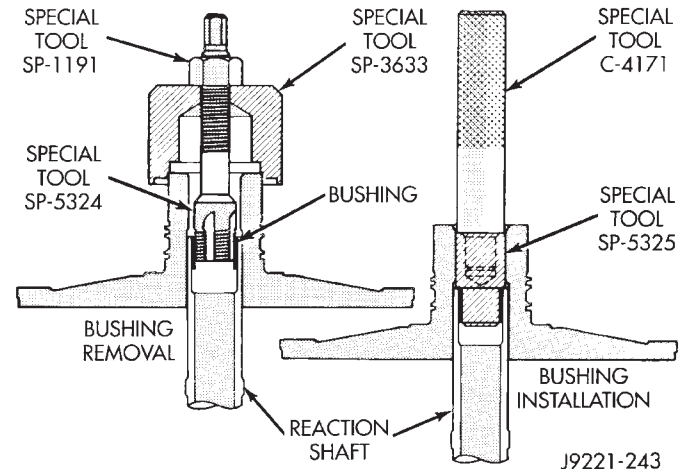

Fig. 125 Replacing Reaction Shaft Support Bushing ASSEMBLY
(1) Assemble Bushing Remover Tools SP-1191, 3633 and 5324 (Fig. 125). **Do not clamp any part of reaction shaft or support in vise.**
(2) Hold Cup Tool SP-3633 firmly against reaction shaft and thread remover SP-5324 into bushing as far as possible by hand. Then thread remover tool 3-4 additional turns into bushing with a wrench.
(3) Turn remover tool hex nut down against remover cup to pull bushing from shaft. Clean all chips from shaft after bushing removal.
(4) Lightly grip old bushing in vise or with pliers and back remover tool out of bushing.
(5) Assemble Bushing Installer Tools C-4171 and SP-5325 (Fig. 125).
(6) Slide new bushing onto Installer Tool SP-5325.
(7) Position reaction shaft support upright on a clean smooth surface.
(8) Align bushing in bore. Then tap bushing into place until Bushing Installer SP-5325 bottoms.
(9) Clean reaction shaft support thoroughly after installing bushing.